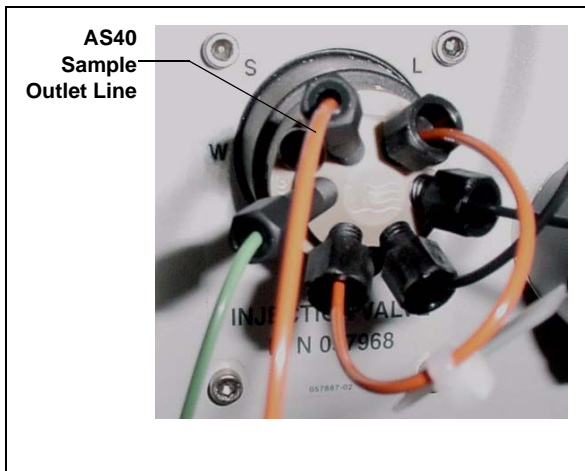

Figure B-42. ICS-1000 Injection Valve
3. Connect the outlet line from the AS40 to port **S (5)** of the injection valve (see Figure B-42).